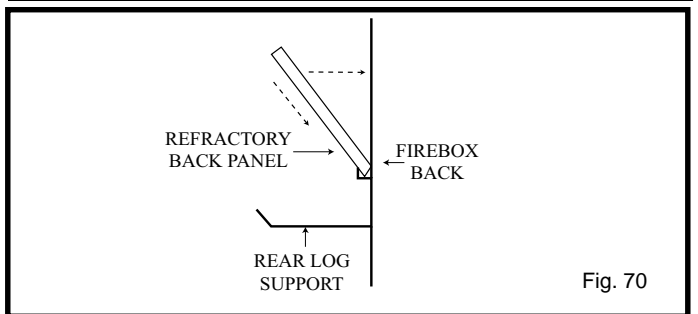

Fig. 70
4. Place back refractory - small brick edge down into support (See Fig. 70).